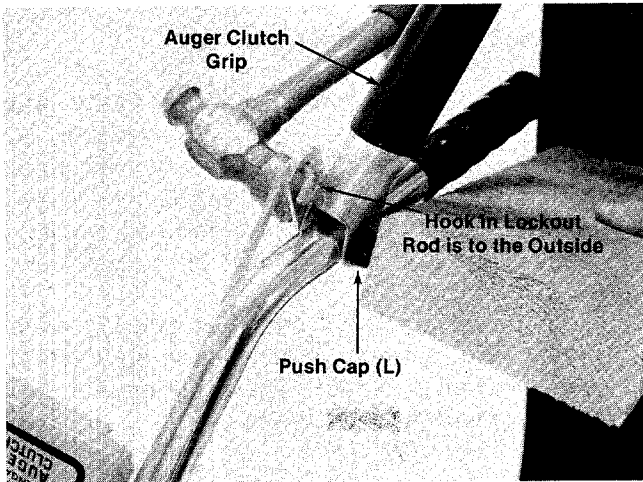

FIGURE 16.
21. Place auger clutch grip on left handle (hook in lockout rod is to the outside). Secure with clevis pin (K) and push cap (L), using a hammer and a block of wood as shown in figure 16.